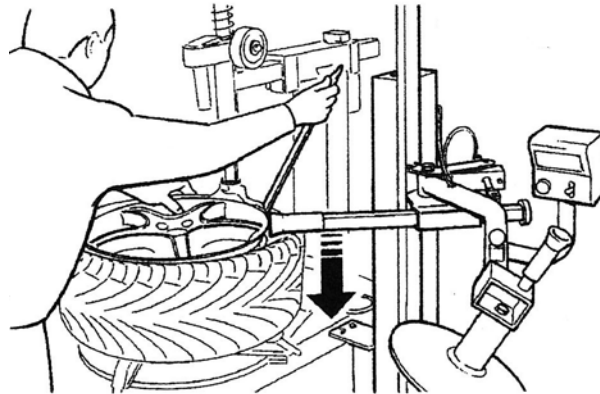

Figure 12
3. Remove the upper bead from the wheel flange by insert the bead-lifting tool as described in the standard tire and wheel dismantling section of the manual. On some low profile tires it may be necessary to use the supplementary roller to assist in this operation. See Figure 12